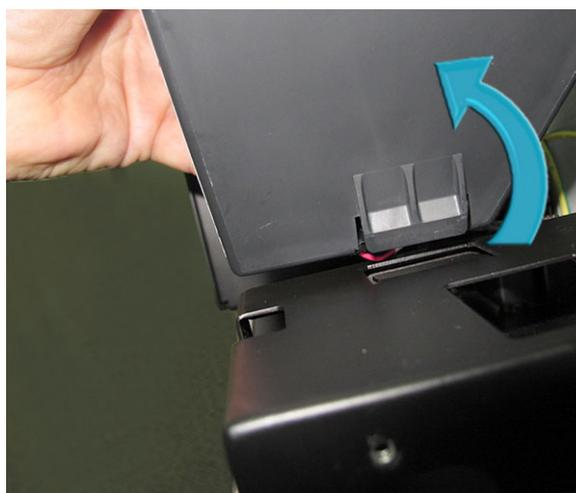

Figure 8-194 Removing the Sub-Woofer Assembly
- 4) Lift and tilt the Sub-woofer Assembly to release it from the securing tab, then remove it from the cabinet cage - see Figure 8-194.
- 1.) Return the replacement Sub-Woofers Assembly (together with the cable attached) to its position on top of the cabinet cage - refer to Figure 8-194.